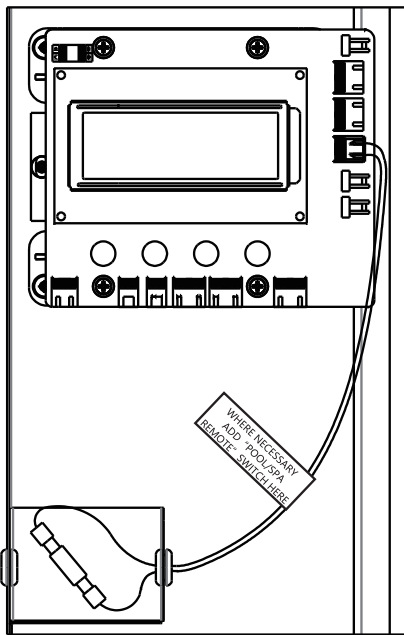

Figure 8. Supplied Wires for the Remote Interface Harness
5. On the "Remote Interface Harness", the supplied two wires provide power out to either a toggle switch or the switch contacts of a third party remote. See **Figure 8**.